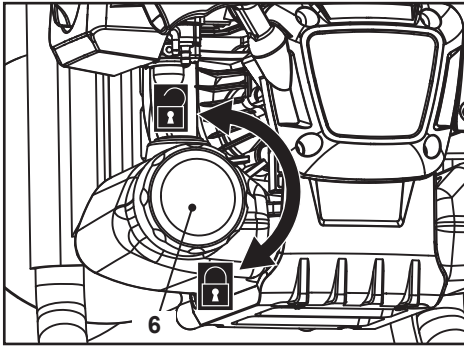

Fig. 3
**NOTE:** Never mix fuel and oil directly in the tank of the product. Use a fuel mixing bottle (20) that helps to ensure the correct mixing ratio. Shake gently to ensure a thorough mix of fuel and oil.
11. Unscrew and remove the fuel tank cap (6) (Fig. 3).
13. Wipe any spilled fuel with a soft cloth and reattach the fuel tank cap (6). Refit and tighten the fuel tank cap (6) (Fig. 3).